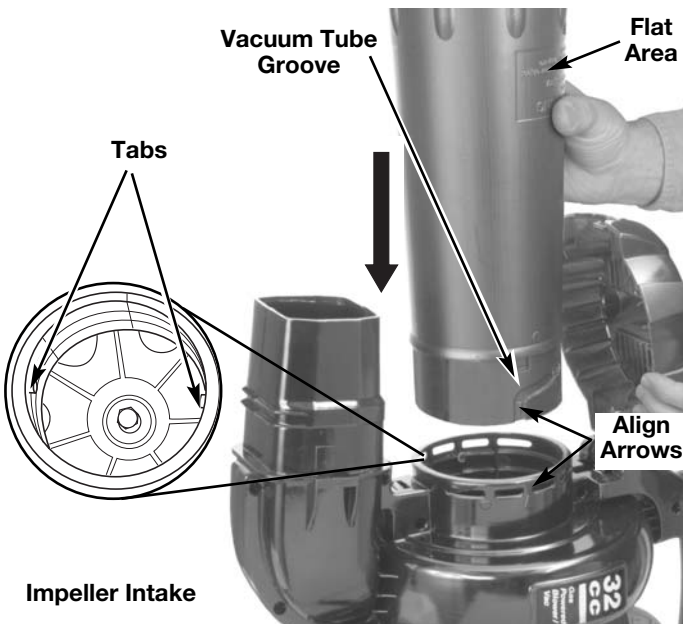

Fig. 4
4. Insert a flat head screwdriver under locking clip, lift upward and open vacuum door (Fig. 4).
5. While holding the vacuum door open, insert the assembled vacuum tube (put together in Step 2). Arrange the tube so the flat area faces the vacuum door. The grooves on the side of the tube will line up with the small tabs in the impeller intake (Fig. 4). From the exterior, align the small arrow on the vacuum tube with the arrow on the impeller intake.